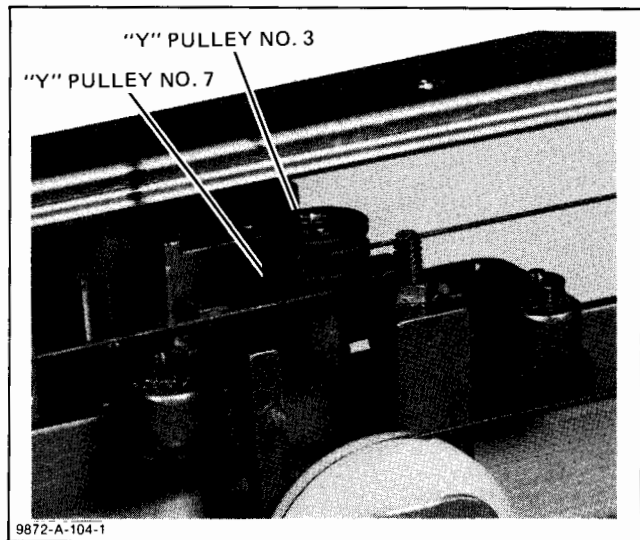

Figure 6-21. Y Cable Feed Through to Pen Carriage Arm
- i. Turn the plotter again, and thread the cable around pulley #7, through the standoff, and hook the crimped end on the rocker tension arm. See Figure 6-21.